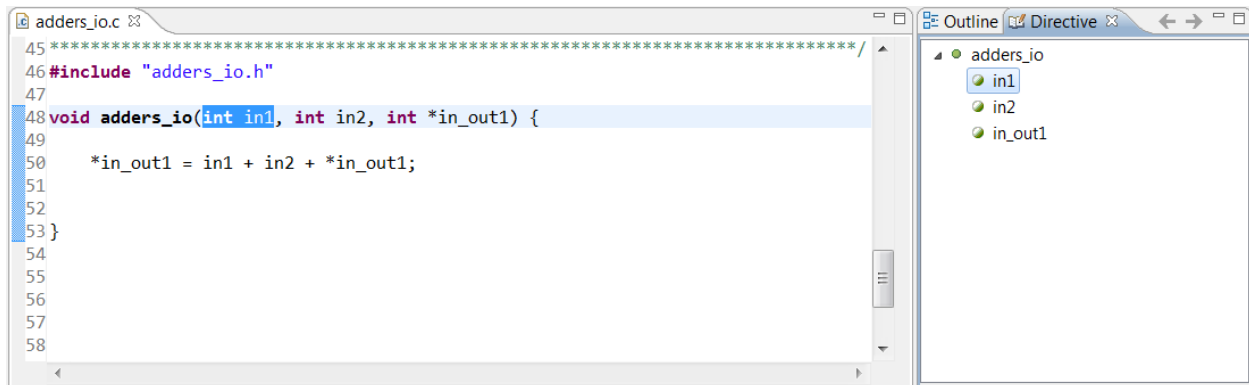

Figure 66: Adding Port I/O Protocols
2. Activate the **Directives** tab and select **input argument in1**, as shown in Figure 66.